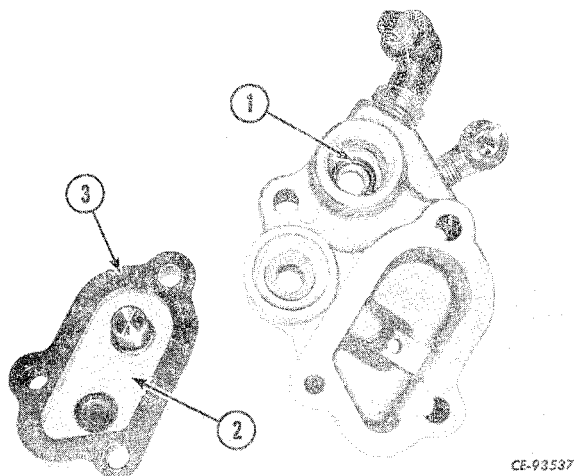

Figure 3-42
Position a new "O" ring (1, Fig. 3-42) at the base of the regulator valve bore. Install the valve in its bore in the housing. Using a new gasket (3), install the cover (2) on the housing.